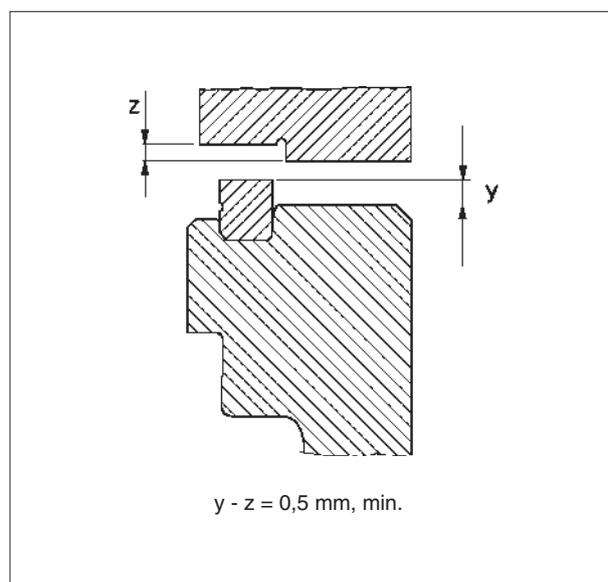

Fig. 4.
4) When having ground the contact faces, it must be observed that the gap between cylinder head and liner is no less than 0,5 mm, that is, the difference between measurements y and z must not be less than 0,5 mm, see fig. 4.